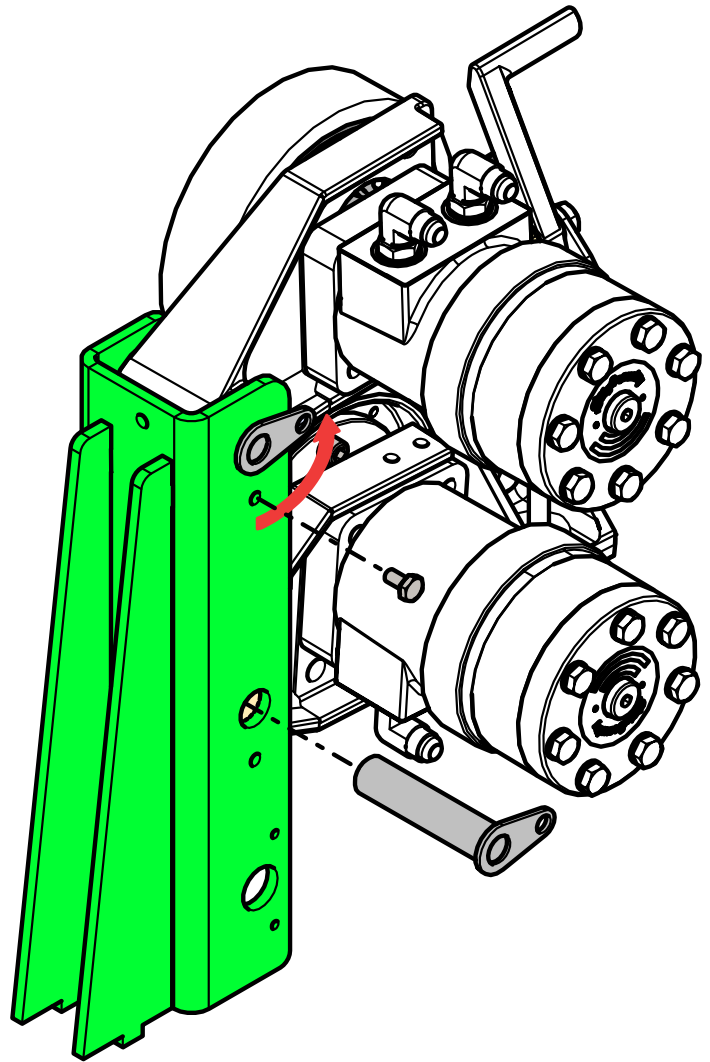

Figure 4. Remove Pivot Pins
5. Remove the bolt from the pivot pin with a $\frac{7}{16}$ in wrench (Figure 4).